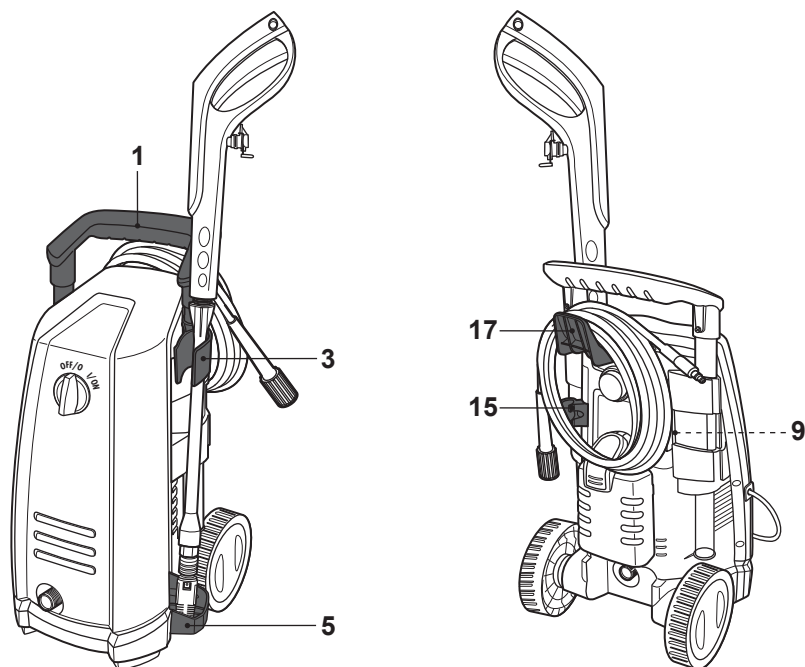

Fig. 43
- > Adjust the transportation handle (1) to the storage position.
- > Store the accessories in the accessory holders (3, 5, 9, 15, 17) of the product (Fig. 43).